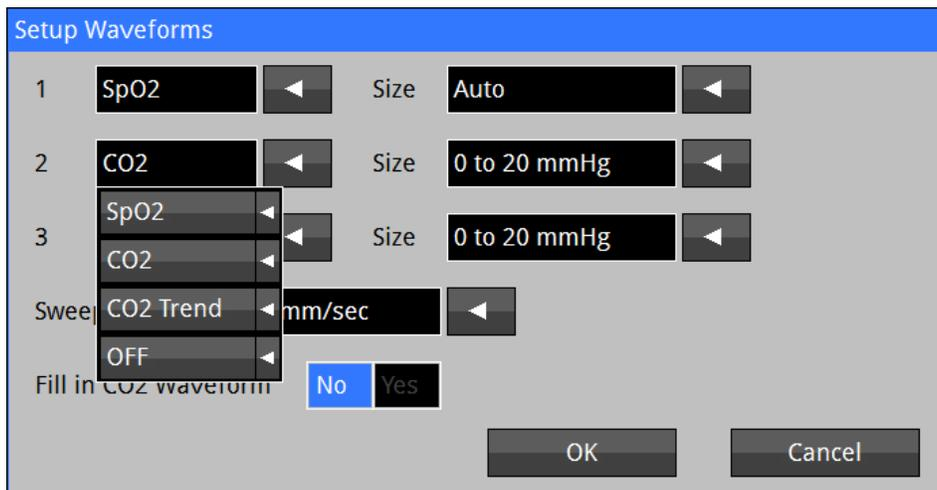

Figure 22: Waveform Setup screen (Masimo CO₂ Enabled)
- b. Touch the  adjacent to the waveform selection displayed (Refer to Figure 22 below);